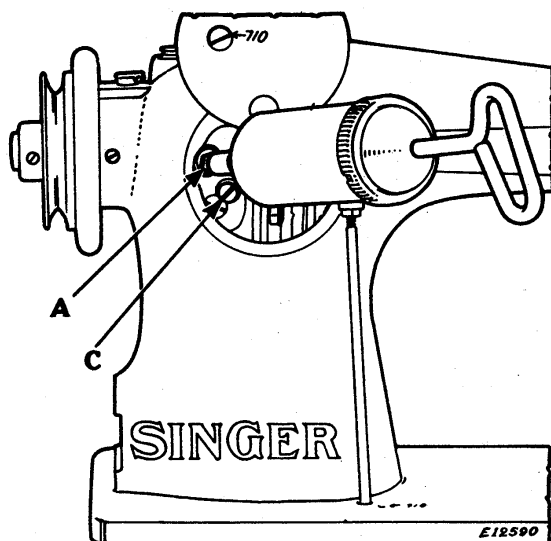

Fig.4
level hole screw (C, Fig. 4) and force the lubricant into the Alemite fitting (A, Fig. 4) until it emerges from the level hole at (C), then replace the screw (C).
Replenish the gear cases at (A) and (B), Figs. 4 and 5 with GEAR LUBRICANT every 160 hours of operation.
To supply grease to the upper gear case (Fig. 4), have the machine in its normal working position, remove the